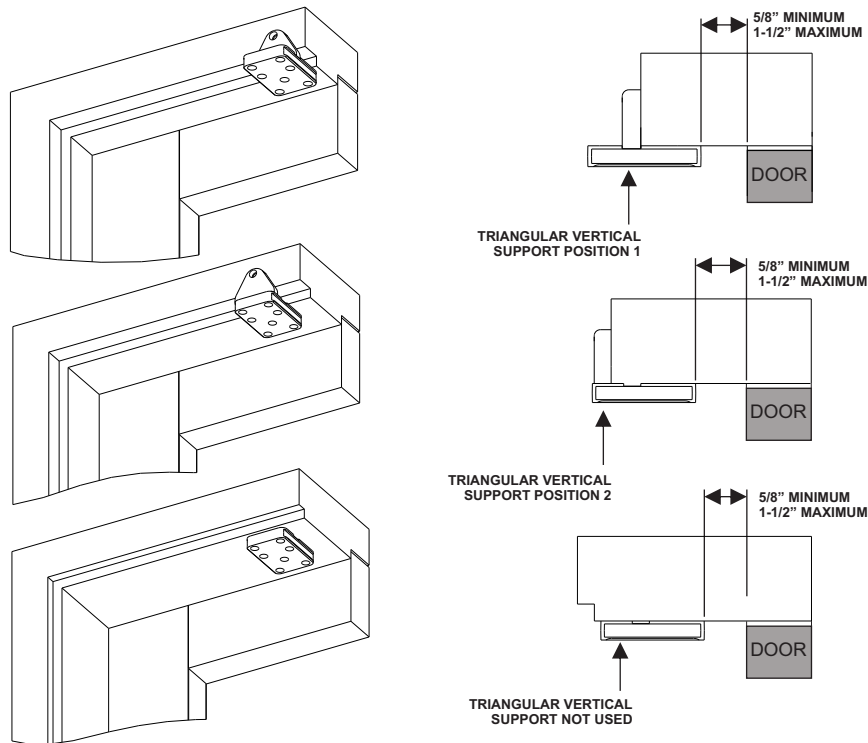

Figure 2
- Refer to Figure 2, and DETERMINE the orientation of the door arm pivot bracket as necessary to ensure the following (as applicable):